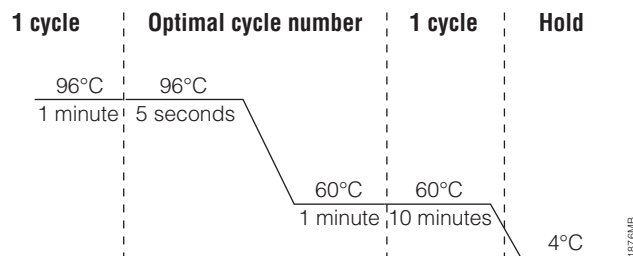

Figure 38. Thermal cycling protocol for the GeneAmp® PCR System 9700, Veriti® 96-Well Thermal Cycler and ProFlex® PCR System.
2. Select and run the recommended protocol, which is provided below and in Figure 38. The total cycling time is approximately 1 hour.